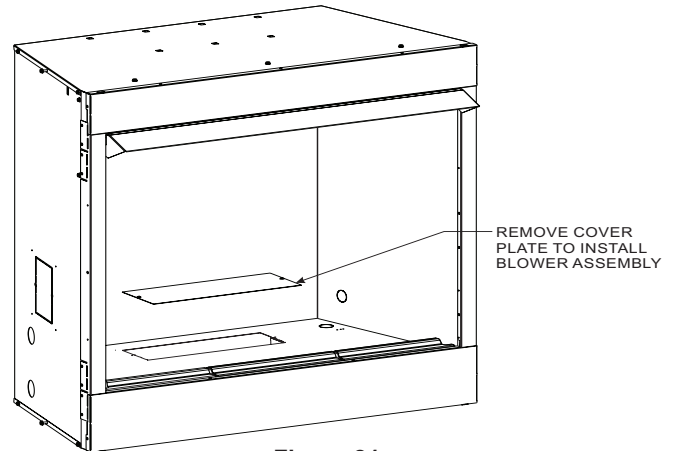

Figure 21
1. Determine which type of firebox you have prior to installation. **See Figures 21 and 22.**